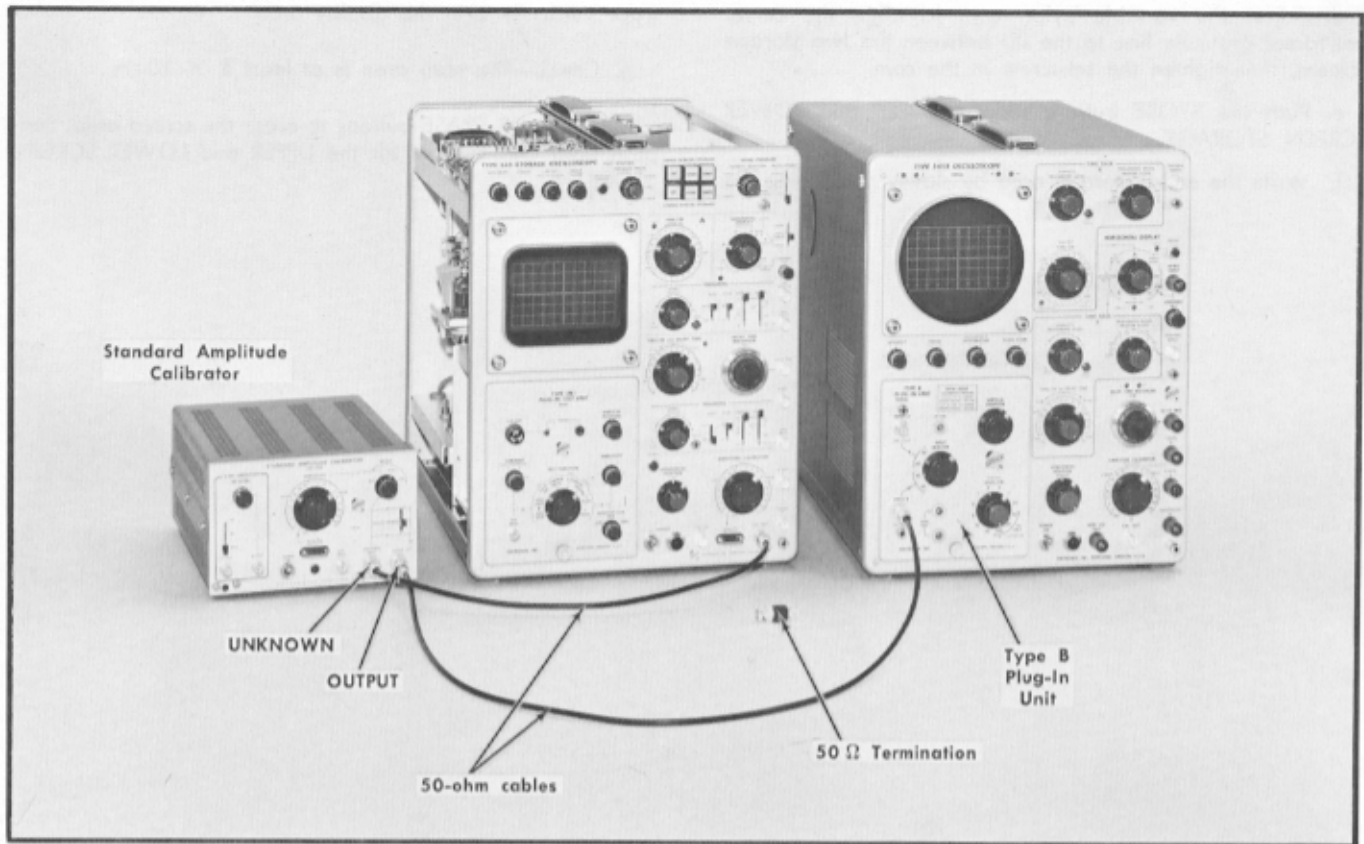

Fig. 6-7. Equipment setup for steps 7, 8 and 9.
- a. Equipment setup is shown in Fig. 6-7.